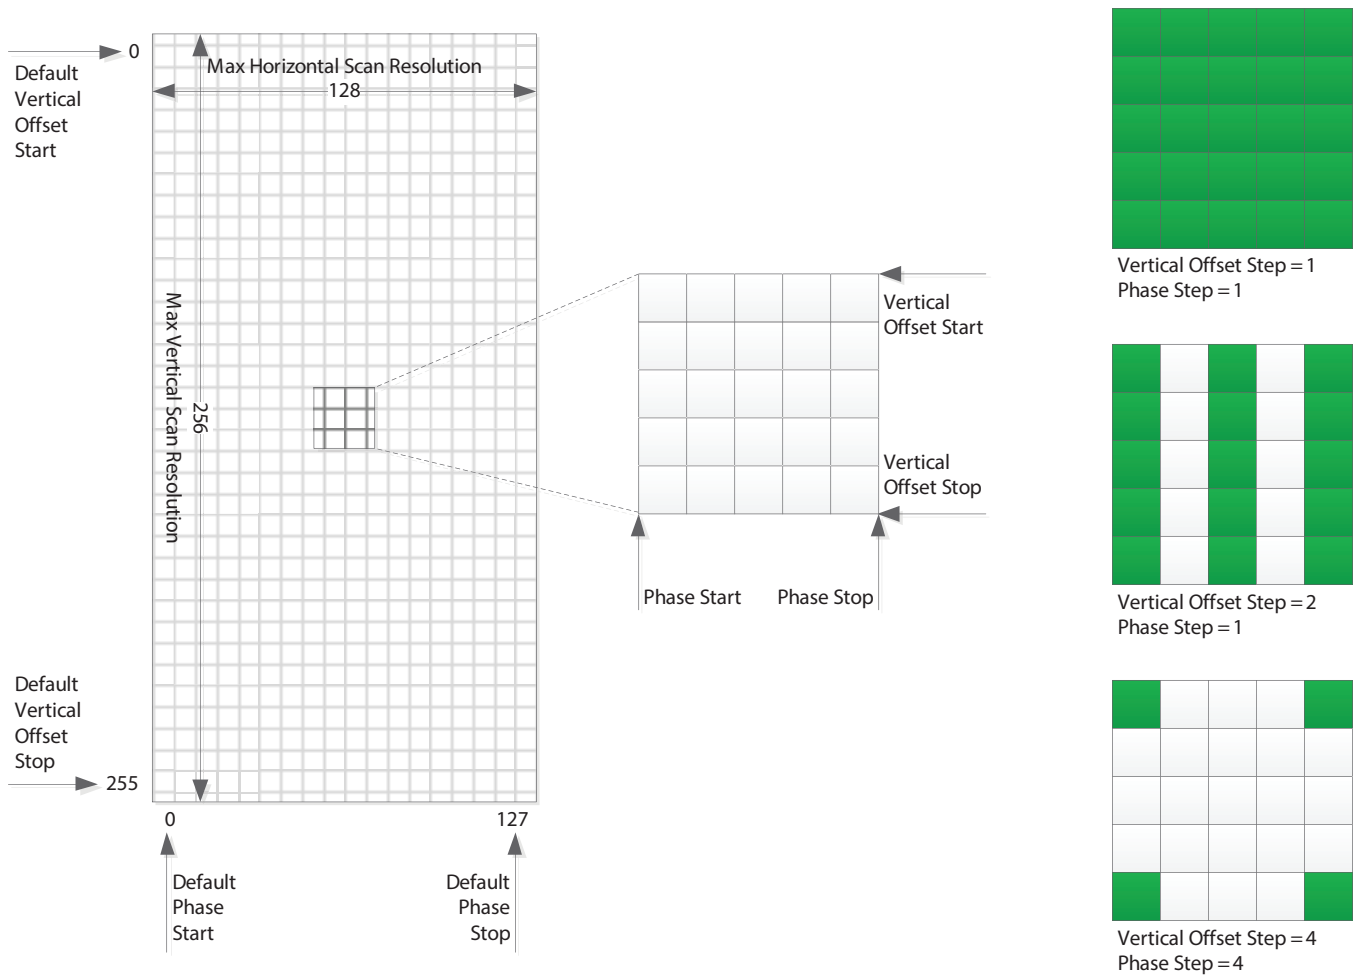

Figure 4-5: Eye Scan Matrix Parameters
Figure 4-5 shows a visual representation of the scan matrix and indicates the spatial parameters that determine the scan area and resolution. Running a scan using the default offset and step parameters, results in 32768 (128x255) samples. The number of samples and thus, the total scan time can be reduced to meet the needs of the application. The scan area can be reduced by reducing the span determined by the vertical and phase start and stop offsets, or the resolution can be reduced by increasing the step size between adjacent samples. On the right in Figure 4-5, there are three step settings used as examples, however there are a total of nine combinations possible. See Table 4-6 for the register addresses and parameter names of the spatial eye scan parameters.
- ◆ Making reference to the Matrix shown in Figure 4-5, the eye scan data starting at 0x6CC3 is stored in order from left to right, top to bottom, from the last stored vertical/horizontal position in the matrix